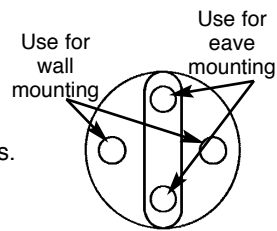

Fig. 4
Step 2: Unscrew the plugs from the coverplate and screw the plugs into the eave mounting position holes (Fig. 4). If plugs are stuck, tap lightly to break paint seal.